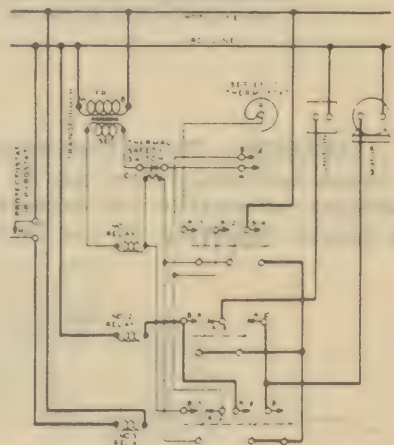
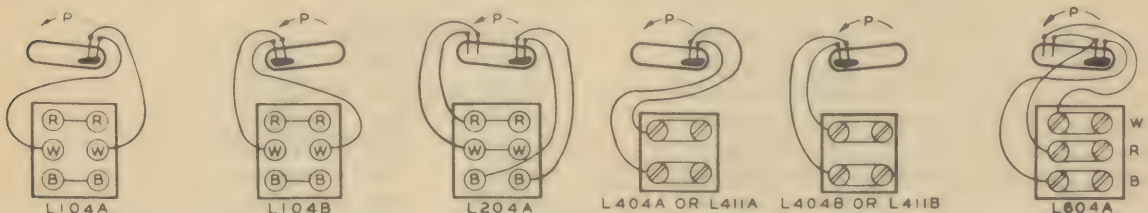

Fig. 5—Circuit diagram of Type R100A for A.C.
Fig. 6—Internal wiring. Letter "P" indicates rotation of switches on pressure rise.
**BLOWING DOWN THE BOILER** - The OILBILT UNIT for which this manual is intended is provided with blow-down valves completely installed as an integral part of the machine. In blowing down, the correct procedure is to open the positive shut-off "Y" valve (#30 - Fig. 5) first, and to blow-down by means of the quick-opening valve (#24 - Fig. 4). Amount and frequency of blow-down is dependent upon existing local water conditions, but the unit should be blown-down for at least two 10 second intervals every eight hours. Water column bowl should be blown-down (#36 - Fig. 6) also in accordance with the above.
Refer to Fig. 5 for the schematic circuit diagram when the R100A is used with A.C. current--Fig. 4 when used with D.C. Current.
- L604A—S.P.D.T. (Series 60). See Fig. 6.
- In these models, the "cut-in" pressure setting (7-Fig. 5) plus the differential setting (9) equals the "cut-out" pressure. That is, in the L104A and L404A controllers, if indicator (7) were set for 10 lbs. and differential indicator (9) set for 2 lbs., the mercury switch would "make" when the pressure dropped to 10 lbs. and would "break" when the pressure rose to 12 lbs. In the L204A and L604A models, the starting contacts (R to B) would "make" when the pressure dropped to 10 lbs. and the stopping contacts (R to W) would "make" when the pressure rose to 12 lbs.
**TO SET - 1.** Turn the screw (1) until the indicator (7) points to the desired cut-in pressure.
**2.** Turn the screw (2) until indicator (9) points to the desired differential between cut-in and cut-out pressures.
Fig. 5—Type L404A Pressuretrol. Other types and Vacuumstats are similar except for type of mercury switch and arrangement of wiring terminals as shown in Fig. 6.